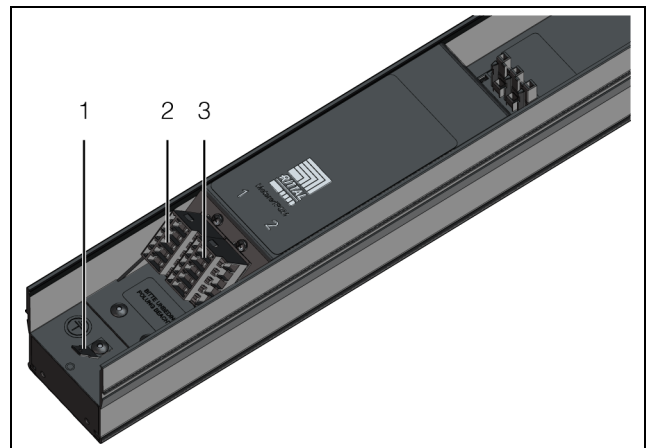

Fig. 4: Connections
- Conductively connect the PSM busbar's housing earthing point (fig. 4, item 1) in the vicinity of the infeed to the enclosure frame.
- Connect a connection cable to the "Infeed 1" connection (fig. 4, item 2) or to the "Infeed 2" connection (fig. 4, item 3) of the PSM busbar and to the mains power supply.